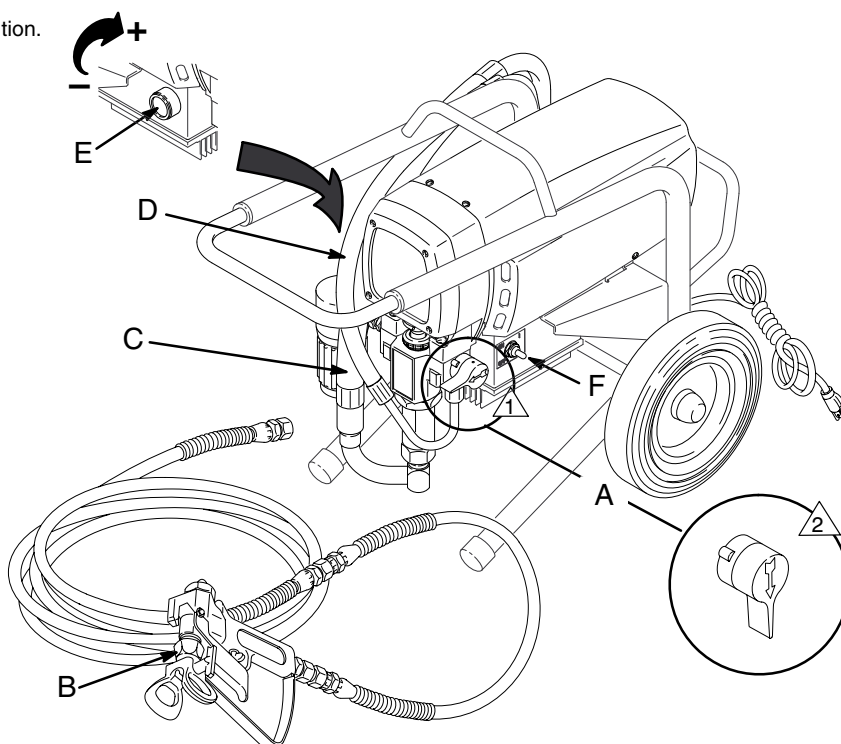

Fig. 6
1. **Open the pressure drain valve (A).** See Fig. 6.
3. **Put the suction hose (C) into the paint.** If you are pumping from a 1 gallon (5 liter) pail, push the drain hose (D) down below the top of the pail to avoid splashing paint when the drain valve is opened.
4. **Turn the pressure knob (E) to the minimum setting.**